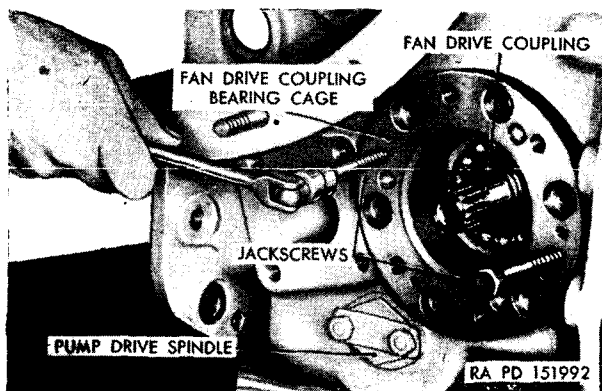
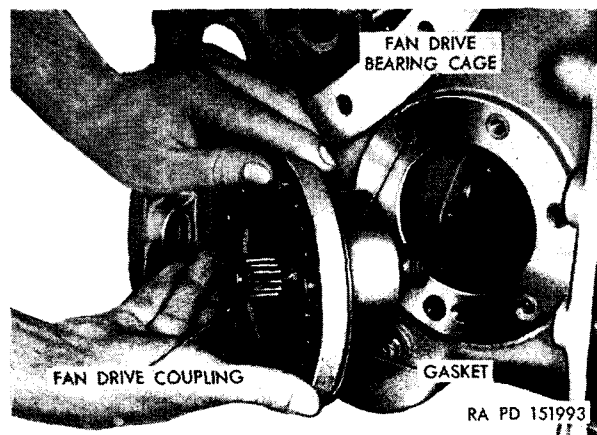

Figure 253. Removing fan-drive-coupling bearing cage.
Figure 254. Removing or installing coupling assembly.
- (2) Using a $\frac{1}{2}$ -inch socket, remove the six bolts from the fan-drive-coupling bearing cage. Use two $\frac{5}{16}$ -inch jack screws to separate the cage (fig. 253) from the housing. Remove the coupling assembly and gasket from the housing (fig. 254).